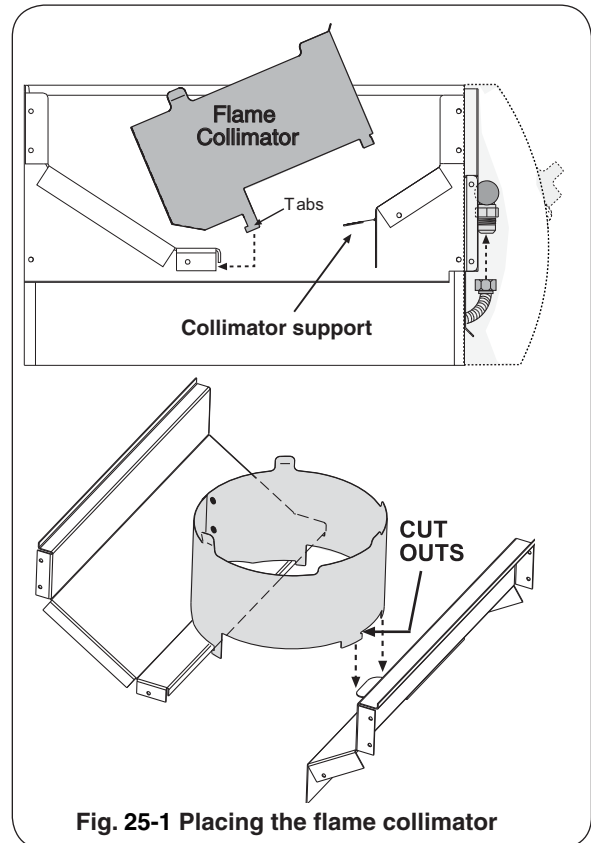

Fig. 25-1 Placing the flame collimator
1. Place the flame collimator over the burner with the tabs and cutouts resting on the inner shell, as shown in Fig. 25-1. Flex the front of the collimator towards the burner until the cutouts fit down around the collimator support. This will lock your collimator into place. The flame collimator acts as a barrier for windy conditions and creates higher BTU concentration to the support grid.
1. Remove the cover, cooking grid, and flame collimator. Compress the collimator front to back to release the front lock then rotate up as shown in Fig. 25-1.